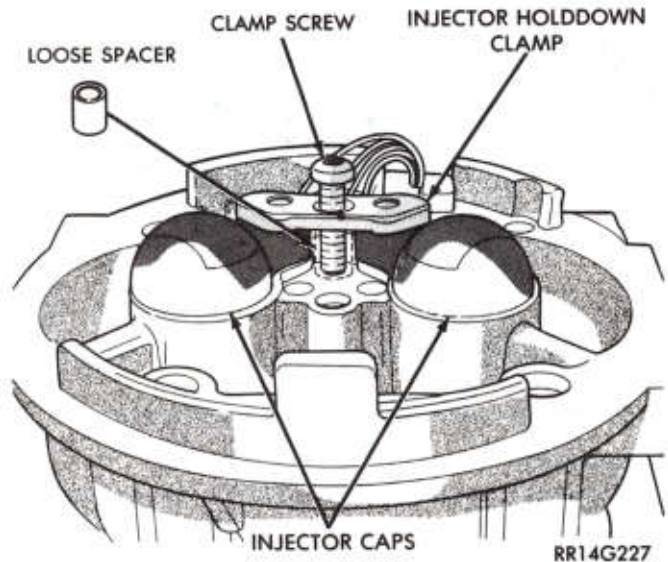
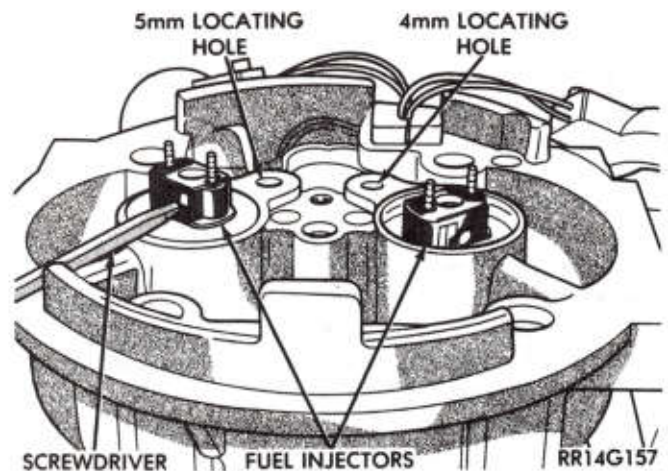
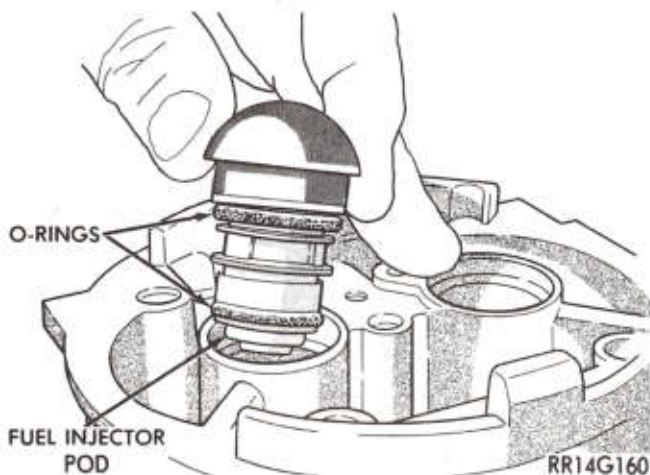

Fig. 7—Removing Injector Cap Hold-down
Fig. 8—Removing Fuel Injector
Fig. 11—Installing Fuel Injector Assembly
FUEL INJECTORS (Figs. 7, 8, 9, 10 and 11)
- (1) Remove air cleaner assembly.
- (2) Perform fuel system pressure release.
- (3) Disconnect negative battery cable.
- (4) Remove Torx screw holding down the injector hold-down clamp. **Be careful of the loose spacer under the clamp (Fig. 7).**
- (5) With a small screwdriver lift the top off the injector using area in front of the hold-down clamp for leverage.
- (6) Using a small screwdriver placed in the hole in the front of the electrical connector gently pry the injector from the pod (Fig. 8).
- (3) Press injector into cap so that upper O-ring flange is flush with lower surface of cap. (Fig. 11).
- (4) Spray inner surfaces of both injector pods with Mopar Brake and Carburetor Parts Cleaner (P/N: 4318037) to remove residual gasoline.
- (5) Lightly lubricate the upper and lower O-rings with Petroleum Jelly.
- (6) Place injector and cap in injector pod and align cap locating pin with locating hole in the casting. **Passenger side cap locating pin is 5mm in diameter and will only fit in passenger side locating hole. Driver's side locating pin is 4mm in diameter (Fig. 8).**
- (7) Repeat steps 1-5 with other injector and cap.
- (8) Press firmly on injector caps, one at a time, until cap is flush with casting surface.
- (9) Place injector hold-down clamp with spacer on
rear portion of caps, aligning the holes in clamp with pins on caps. (Fig. 7).
(10) Install clamp screw. Be sure spacer is in place (Fig. 7). **Because O-ring squeeze may cause caps to lift up, press firmly on both caps with one hand to assure caps are flush while installing clamp screw.** Tighten screw until snug. Torque screw to 35 in. lbs.
(11) Reconnect battery cable, test for leaks using Diagnostic Tester.
(12) Reinstall Air Cleaner Assembly.